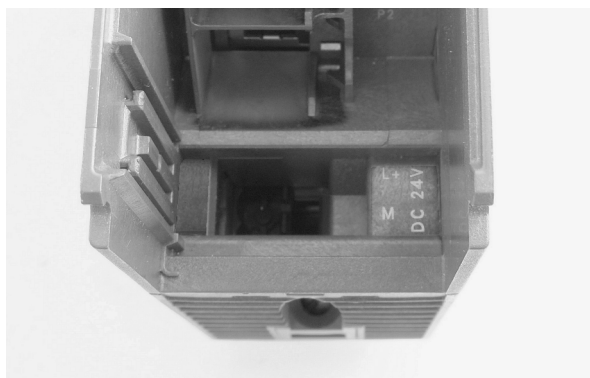

Figure 4-2 Connecting the power supply
4. Insert the terminal block into the sockets on the device. See << Link to Figure 4.2>>